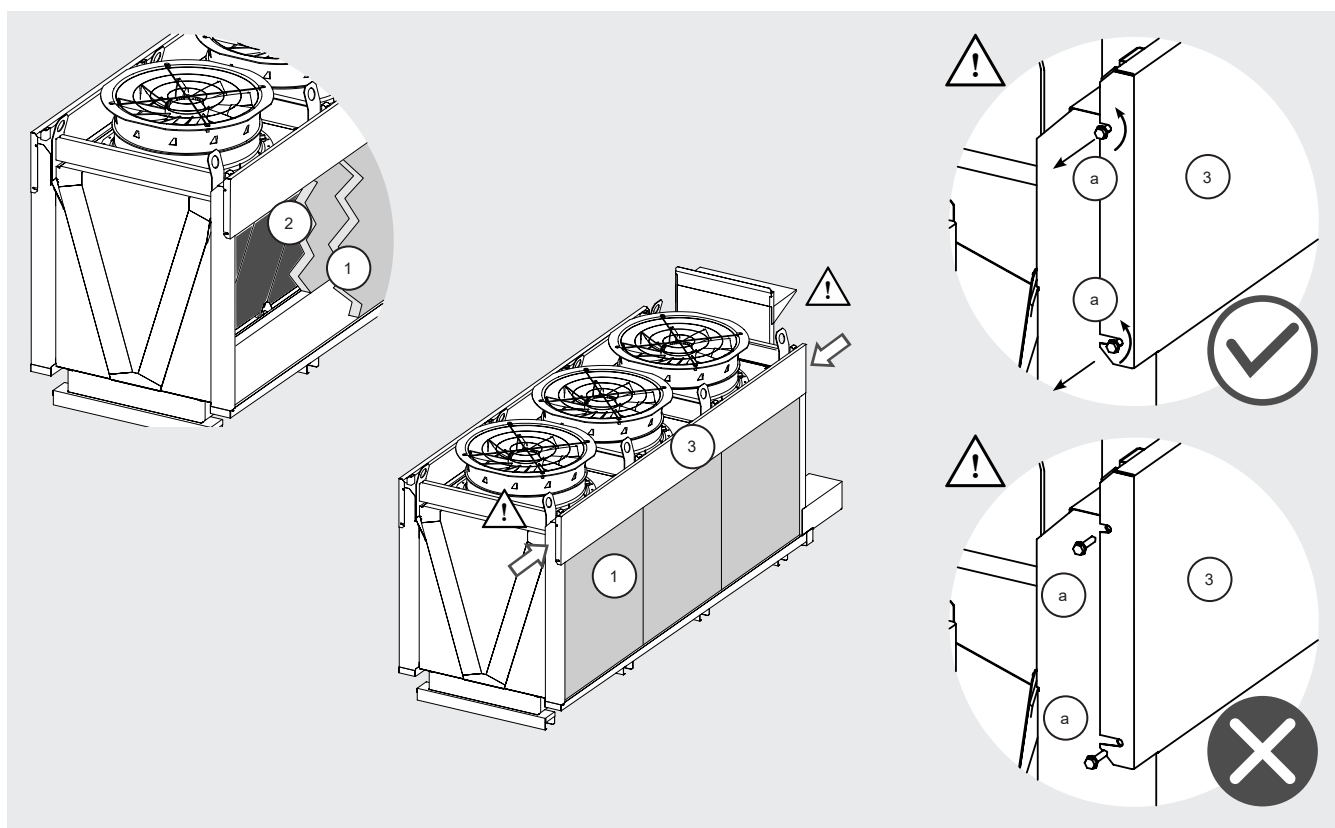

Figure 17
- 12.9.2 To clean or replace the panels, first remove the outer panels (1) and then the inner panels (2). See Figure 17.
- 12.10.4 Unscrew the screws securing the cover (3) of the nozzle compartment according to Figure 17. Open the nozzle compartment by lifting the cover (3) as seen in 12.9.4.